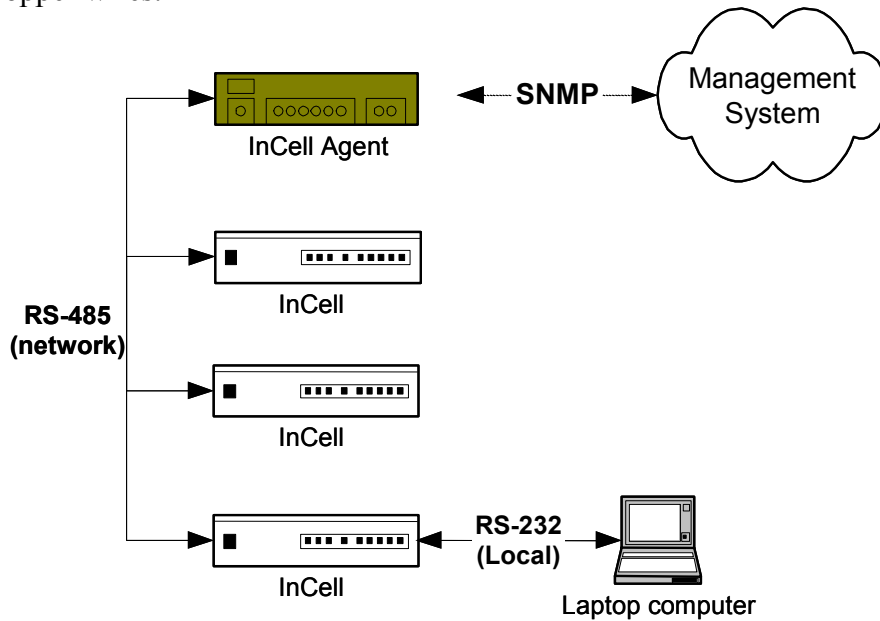
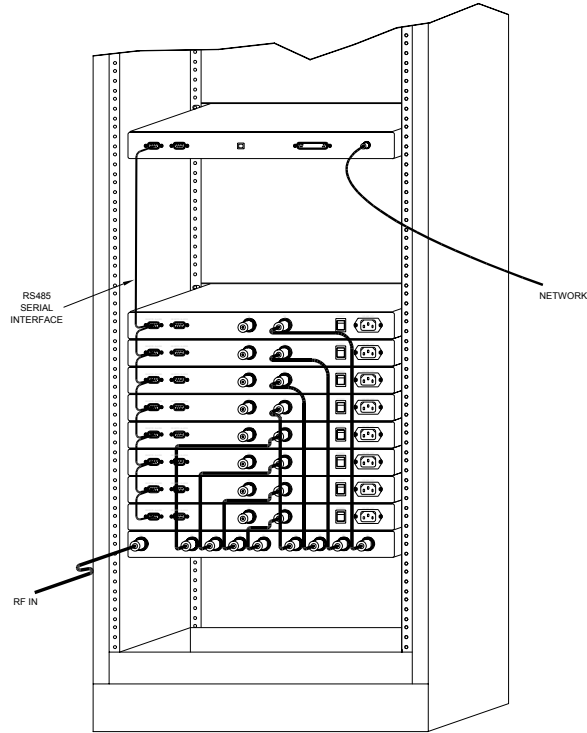

Figure 5-1. Remote Alarm Capability
Figure 5-2. Daisy Chaining CDU's for Remote Monitoring
- Locally using a RS-232 connection to a terminal or PC (see Figure 5-1)
In the first method, the RS-232C interface option does not require a separate chassis. An RS-485 bus daisy chains the system status and alarms together as illustrated in Figure 5-1 and Figure 5-2. Communications between CDUs is accomplished over an RS-485 link, and the user can connect to the master bus using a standard computer or RS-232C terminal.